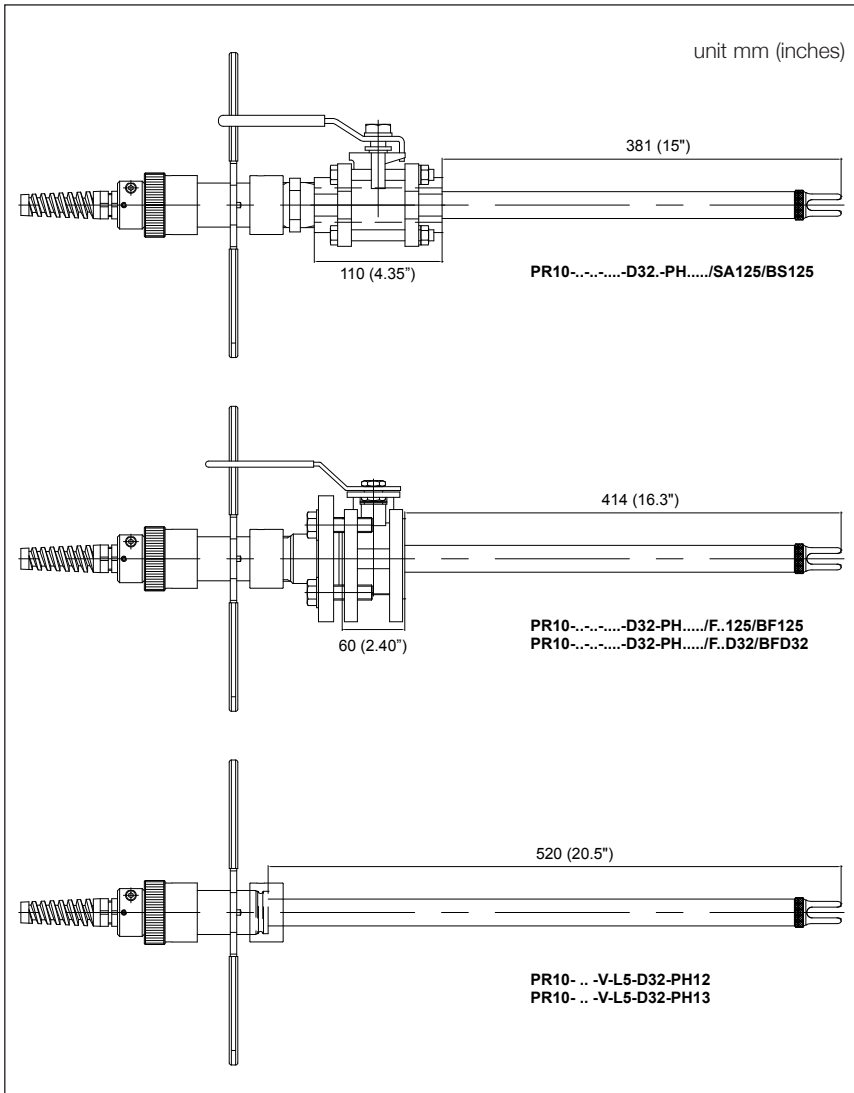

FIG. 2 Dimensional drawing PR10...-D32 with mounted pH sensor
- Ref. mechanical drawing Fig. 2 - 7 on page 10 - 15.